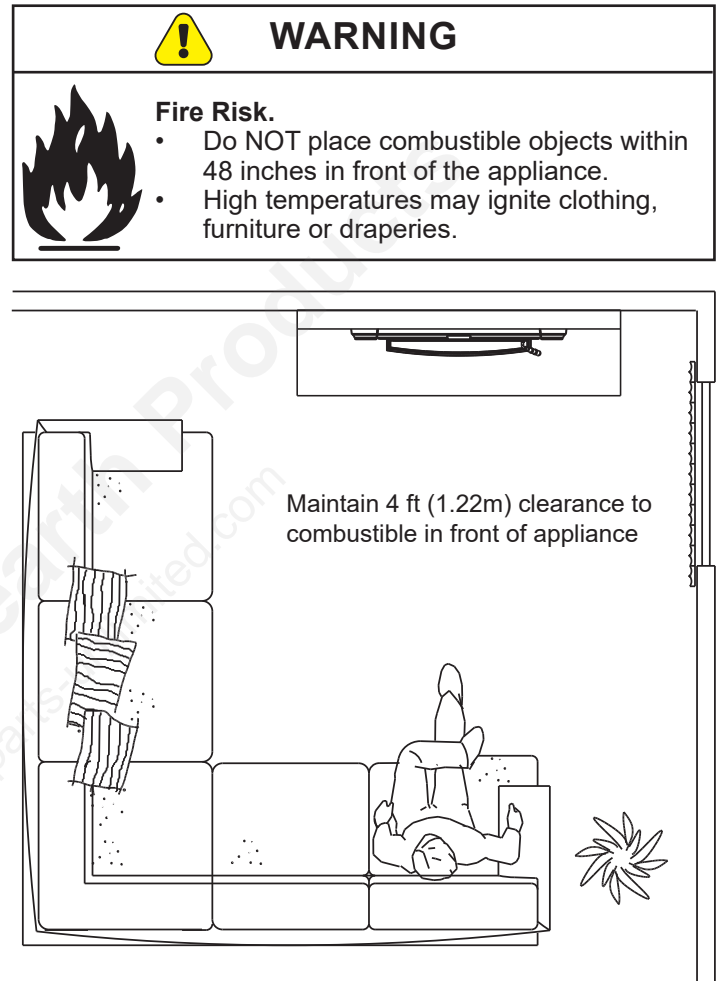

Figure 14.2
- Do **NOT** place combustible objects within 4 ft (1.2 m) of the front of appliance (Figure 14.2).